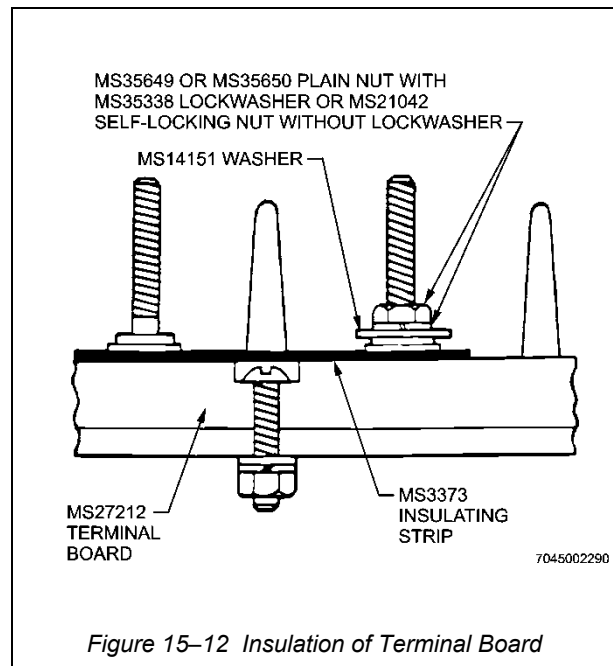

Figure 15-12 Insulation of Terminal Board
48. When a MS25226 busbar is to be attached to a MS25123 terminal board, mount the busbar directly on top of the nut that holds the terminal stud in place. When MS25226 busbar is to be attached to a MS27212 terminal board, mount the busbar directly on the base of the moulded-in stud, and above the insulating strip (MS3373) if used. (See Figure 15-12 and Section 2, Chapter 4, Figure 4-18).